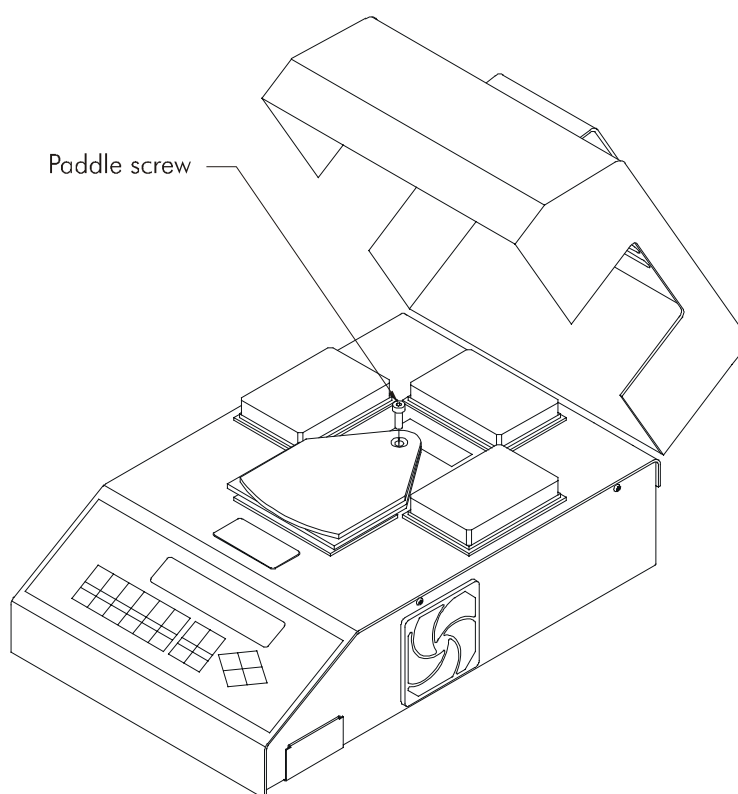

FIGURE 1 Standard paddle assembly of the RoboCycler temperature cycler.
1. Remove the standard paddle assembly from the temperature cyclers by removing the paddle screw (see Figure 1).